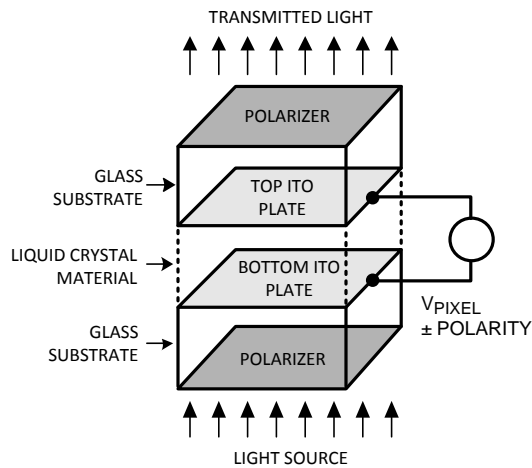

Figure 26. Individual LCD Pixel
To better understand these op amp applications, let's first review a few basic concepts of how a TFT display operates. Figure 26 is a simplified illustration of an LCD pixel. The top and bottom plates of each pixel consist of Indium-Tin oxide (ITO), which is a transparent, electrically conductive material. ITO lies on the inner surfaces of two glass substrates that are the front and back glass panels of a TFT display. Sandwiched between the two ITO plates is an insulating material (liquid crystal) that alters the polarization of light to a lesser a greater amount, depending on how much voltage (V_{PIXEL}) is applied across the two plates. Polarizers are placed on the outer surfaces of the two glass substrates, which in combination with the liquid crystal create a variable light filter that modulates light transmitted from the back to the front of a display. A pixel's bottom plate lies on the backside of a display where a light source is applied, and the top plate lies on the front, facing the viewer. On a Twisted Neumatic (TN) display, which is typical of most TFT displays, a pixel transmits the greatest amount of light when V_{PIXEL} is less $\pm 0.5V$, and it becomes less transparent as this voltage increases with either a positive or negative polarity. In short, an LCD pixel can be thought of as a capacitor, through which, a controlled amount of light is transmitted by varying V_{PIXEL} .